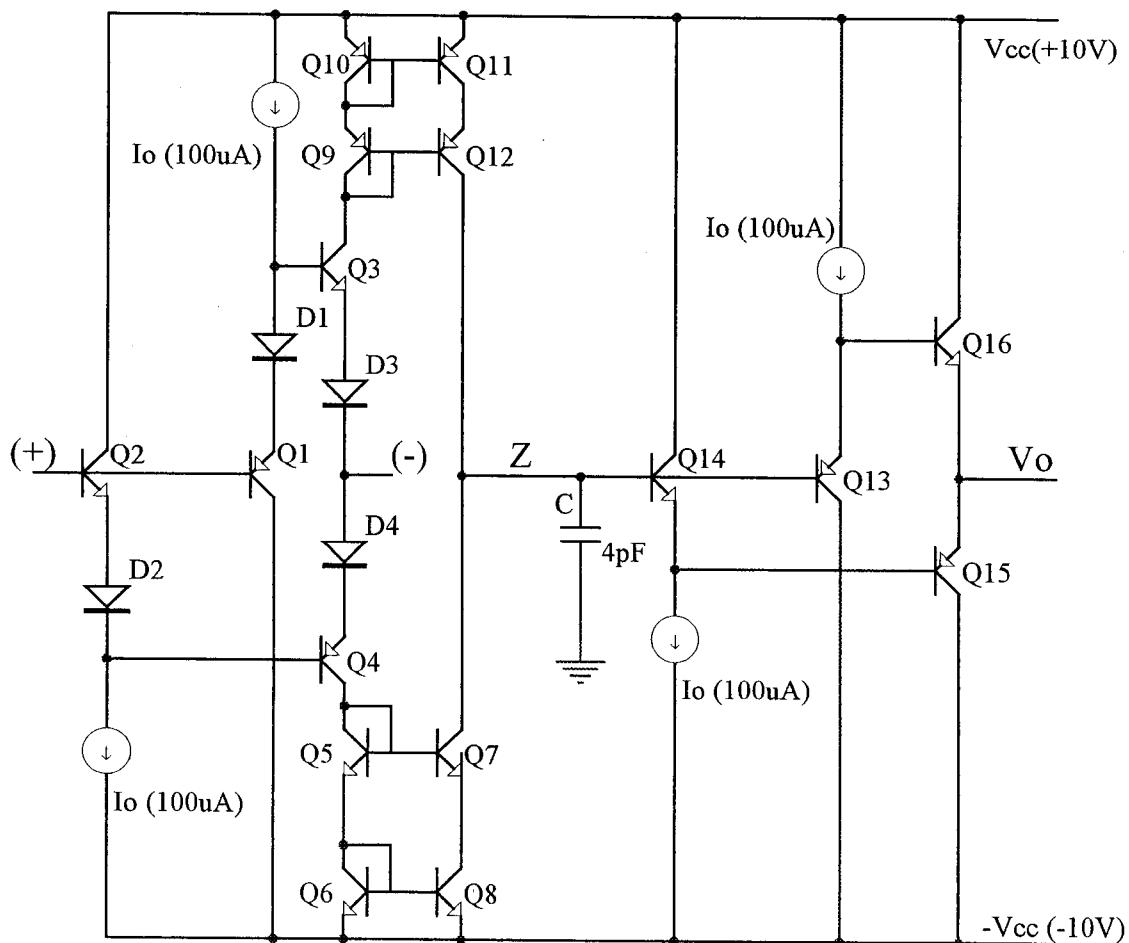

Figure 1
- The circuit shown in *Figure 1* is a typical architecture for a current-feedback op-amp.